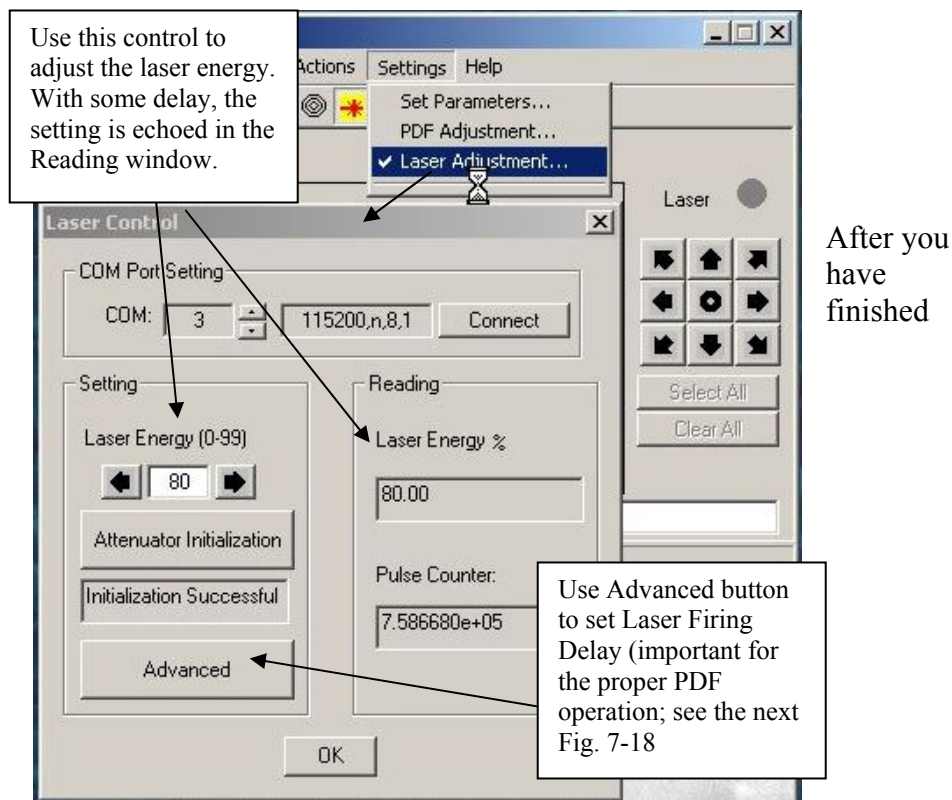

Fig. 7-17. Laser Adjustment dialog enables to choose an appropriate laser attenuation.
To adjust laser attenuation, use the dialog box shown in Fig. 7-17 (accessed through Settings -> Laser Adjustment menu item). There are more controls included in Laser Control dialog (Fig. 7-17) like COM Port Settings etc. They are included for technological purposes; the user has no needs to use them.
Important. During the first run of Target software, the proper Laser Firing Delay value should be set through Advanced button (see Figs 7-17 and 7-18). The delay is important for proper PDF operation. Its value is unique for every Control Unit and is specified on a special sticker placed at the factory at the bottom of Control Unit housing.
Then increase the laser energy in Target software (Figure 7-17) so that roughly the same laser fluence (energy/area) is maintained. The purpose behind this exercise is to generate more analyte ions per laser shot. With the PDF Technology, ions generated far away from the MS entrance can even be entrained into the MS.
3. Set other *TARGET* settings (using the Settings Dialog window). Set the desired laser energy (using Laser Control dialog box, Fig. 7-17), press the “Laser Fire” button and “Spiral Motion” button (if desired) and set/activate “PDF” (if desired).